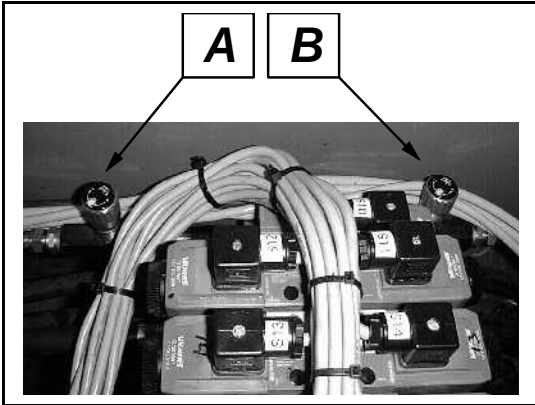

Figure 25. Adjustment of closing time of brakes
For example when towing, the drive brake can be released by closing the control valves for the closing time of the brakes fully (figure 25). After this, choose fast drive, and run the Access Platform slightly forward or backward using the emergency lowering pump. This will pressurize the brakes and leave them open until the control valves are opened.
8. Adjust the stopping distance of the Access Platform to approx. 1 m by valves A and B (figure 25). When adjusting, both valves must show the same value, see valve scales.